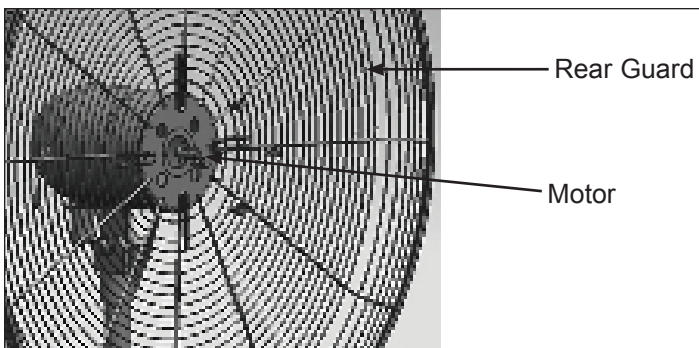

Figure 2: Attaching Rear Guard to Motor
8. Slide the Rear Guard on to Motor Assembly and secure it with (4) Flange Screws (see Fig. 2). Tighten the screws firmly using the wrench/Phillips head screwdriver.